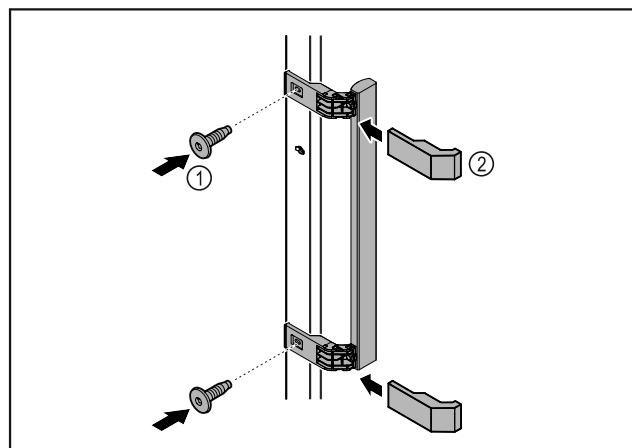

Fig. 8
- Attach handle from accessory kit to the door using the screws supplied Fig. 8 (1).
- Put on cover Fig. 8 (2).